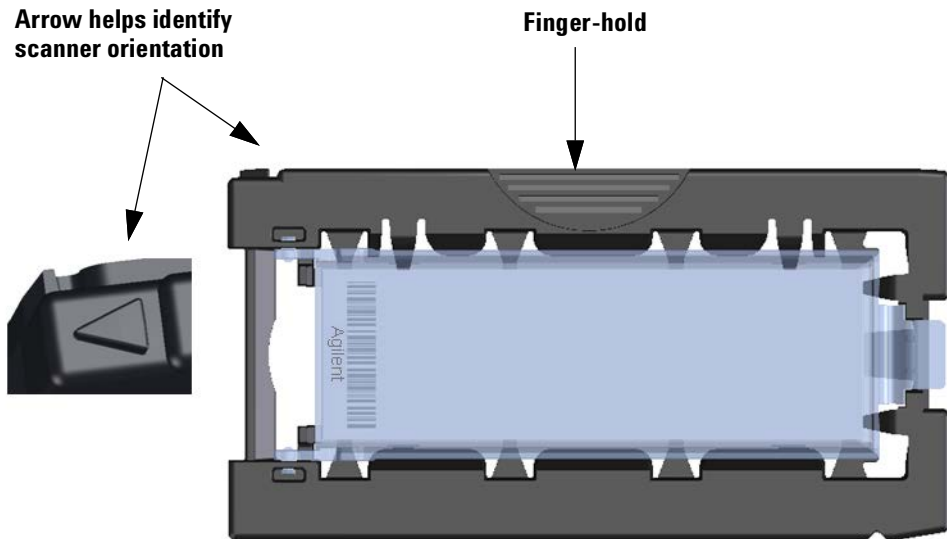

Figure 27 Slide holder helps you to insert slides correctly
- 3** Pick up the slide holder using the finger hold. The arrow on top of the slide holder points to the left when you pick up the slide holder correctly. See Figure 27.